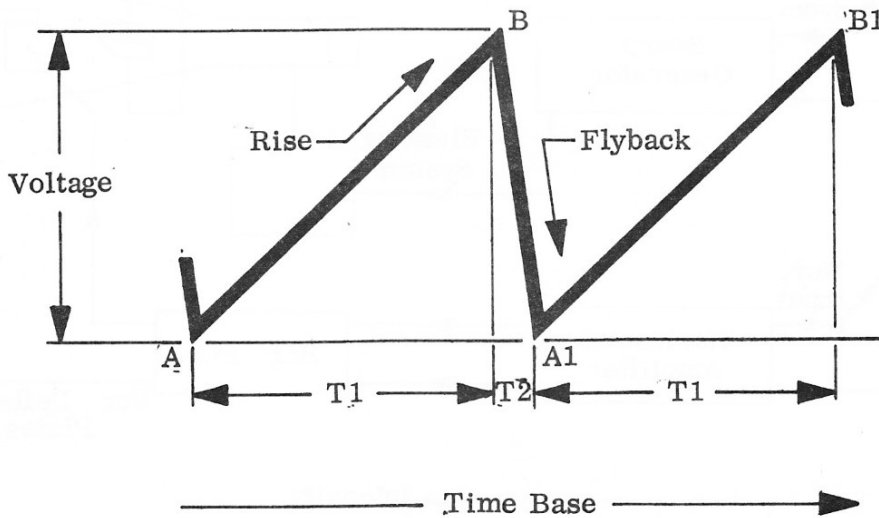

Figure 4. SAWTOOTH WAVESHAP
Figure 4. illustrates the sawtooth voltage that is used for the sweep by applying it to the horizontal deflection plates. The voltage is made to rise from point (A) along a straight line to point (B). This is known as a linear rise. If this voltage is applied to the horizontal deflection plates, the electron beam will move as desired, i. e. from left to right. In order to return the beam to the left again, this voltage must drop down to the value it had at point (A). Time T1 is called the rise time while T2 is called the flyback time, since it represents the time during which the beam is being moved back to the starting point. The return trace is blanked out by means of a blanking amplifier so this portion of the trace is not visible on the screen. The simplest way of obtaining the gradual rise in voltage followed by a sudden drop is by charging and discharging a condenser. This is generally accomplished by means of a relaxation oscillator.